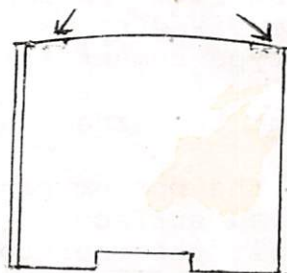

Fig. 3
Step 8: Drill the body (#76) for the grabirons and hand railings. Bend them from the provided wire and cement them in place. Drill (1/16") the roof to accommodate the smokejack. Fashion it from the wood dowl as shown in Fig. 3. Cement it in place.